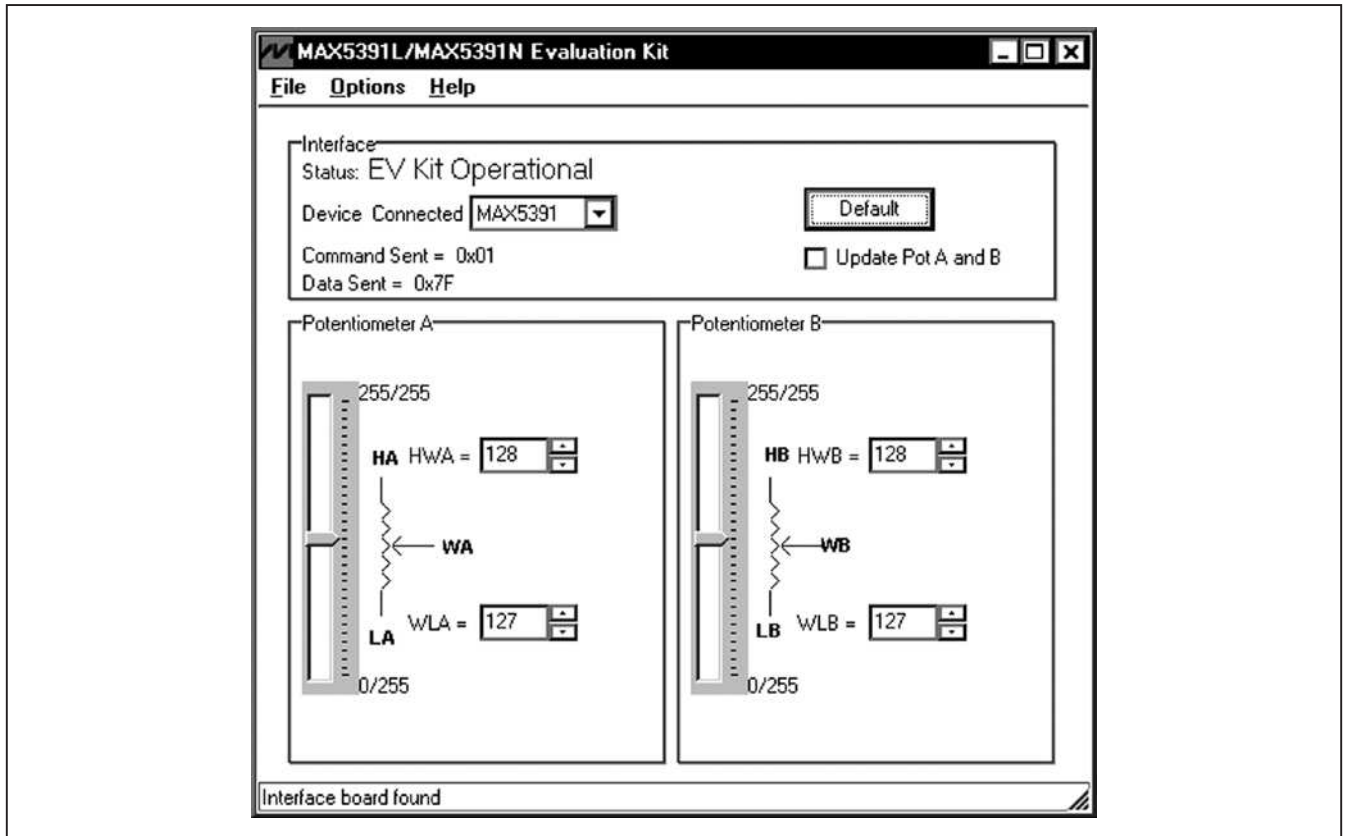
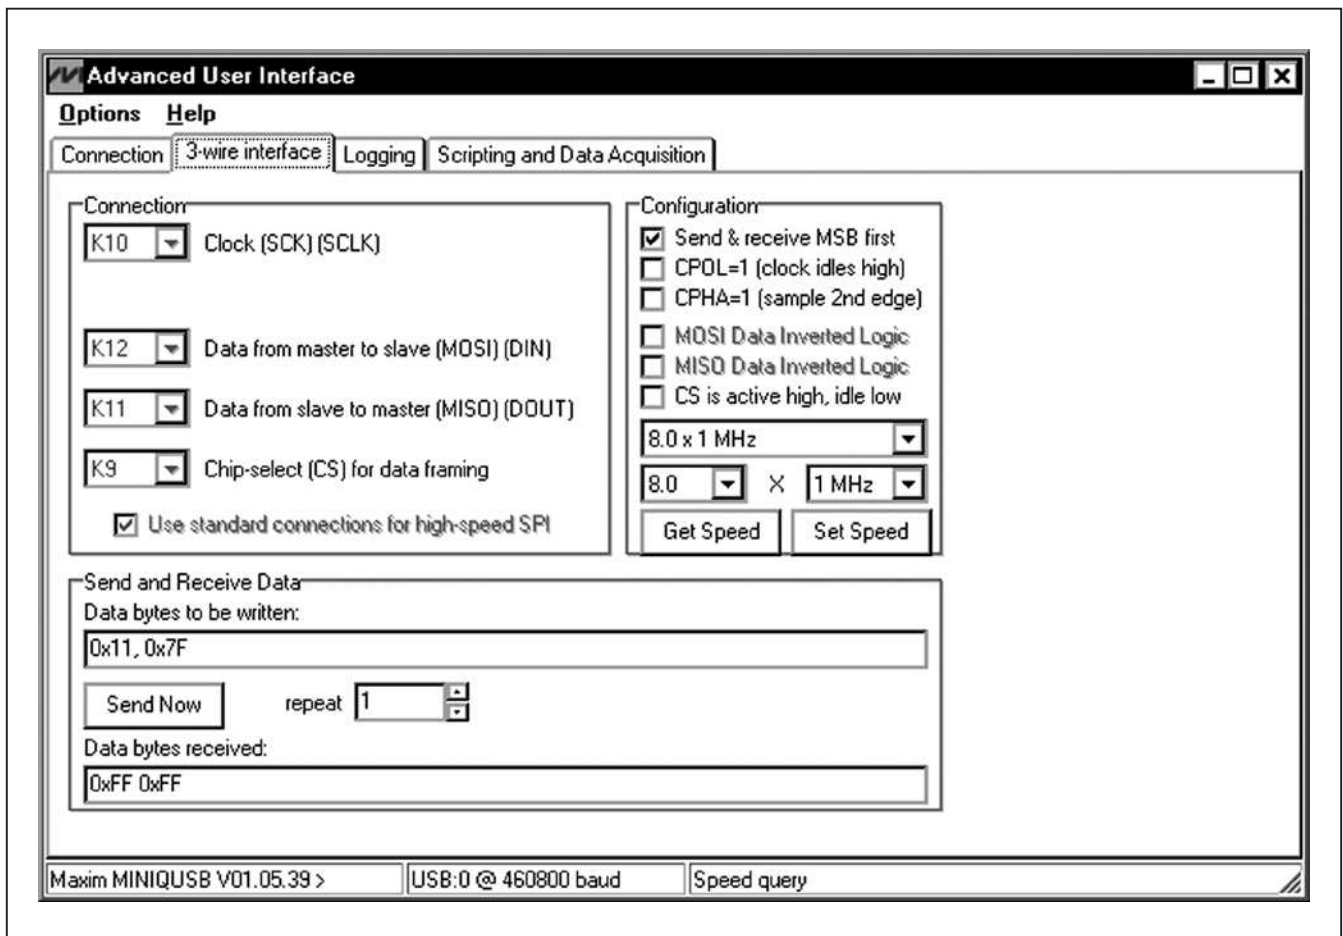

Figure 1. MAX5391L/MAX5391N Evaluation Kit Software Main Window
Figure 3. Simple Low-Level 3-Wire Interface
- 10) Using the **Device Connected** combo box, select MAX5391 from the list and then press the **Default** button. The EV kit software main window appears, as shown in Figure 1.
The EV kit software GUI shown in Figure 1 is a Windows program that provides a convenient means to control the MAX5391L and MAX5391N dual potentiometers. Use the mouse or press the Tab key to navigate through the GUI controls. The correct SPI write operations are generated to update the MAX5391L/MAX5391N internal memory registers when any of these controls are executed.
There are two methods for communicating with the EV kit, through the normal user-interface panel (Figure 1), or through the SPI commands available by selecting the **3-Wire Interface** utility from the main program's **Options | Advanced Users Interface** menu bar. A window is displayed (Figure 3) that allows SPI send/receive data operations.
On the **3-wire interface** tab, the **Connection** group box defines the hardware connections of the interface. For the EV kit, **K10** is selected from the **Clock (SCK)(SCLK)** drop-down list, **K12** from the **Data from master to slave (MOSI)(DIN)** drop-down list, **K11** from the **Data from slave to master (MISO)(DOU)** drop-down list, **K9** from the **Chip-select (CS) for data framing** drop-down list, and the **Use standard connections for high-speed SPI** checkbox is checked (see Figure 3).
The **Configuration** group box allows the user to configure the logic level and data rate. For the EV kit, check the **Send & Receive MSB first** checkbox and verify that the **CPOL=1(clock idles high)** and **CPHA=1(sample 2nd edge)** checkboxes are unchecked (see Figure 3).
**Note:** The SPI dialog boxes accept numeric data in hexadecimal format. Hexadecimal numbers must be prefixed by \$ or 0x. Figure 3 shows a simple SPI write-byte operation using the included 3-wire interface diagnostics tool. In this example, the software is sending command 0x11 (write to potentiometers A and B) and data 0x7F. The data sequence sets potentiometer A and B wiper positions to 127.